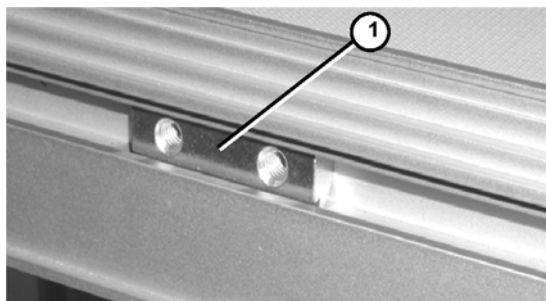

Figure 4
1. Install t-bars (**Figure 4, item 1**) into conveyor t-slot.